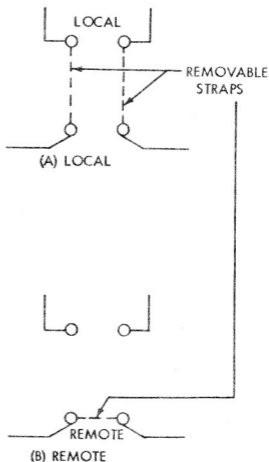

Figure 3-1. Method of Connecting Removable Straps for REMOTE or LOCAL Current
- (1) Turn all line current rheostats counterclockwise to allow passage of minimum current.
- (2) Turn on local line current supply at distribution panel. There are no ON-OFF switches in these panels; once panels are connected to local line current, they are operative.
- (3) If the desired teletypewriter equipment is wired in the same looping channel as the radio adapter to be used, no patchcords are required.
- (4) If the radio adapter supplies own line current, relocate the removable straps located inside the panel cabinet, as shown in figure 3-1.
- (5) Turn meter selector switch to desired channel and adjust corresponding line current rheostat to 60 ma.
- (6) If the desired teletypewriter is not wired in the same looping channel as the radio adapter to be used, insert one end of a moulded patchcord ~~(supplied with panel)~~ in the proper teletypewriter jack and the other end in either one of the two looping jacks in the desired channel. The teletypewriter originally in this channel may be disconnected by inserting a dummy plug ~~(supplied with panel)~~ in the set jack, or it may be patched to the looping jacks of another channel in the same manner as described above.